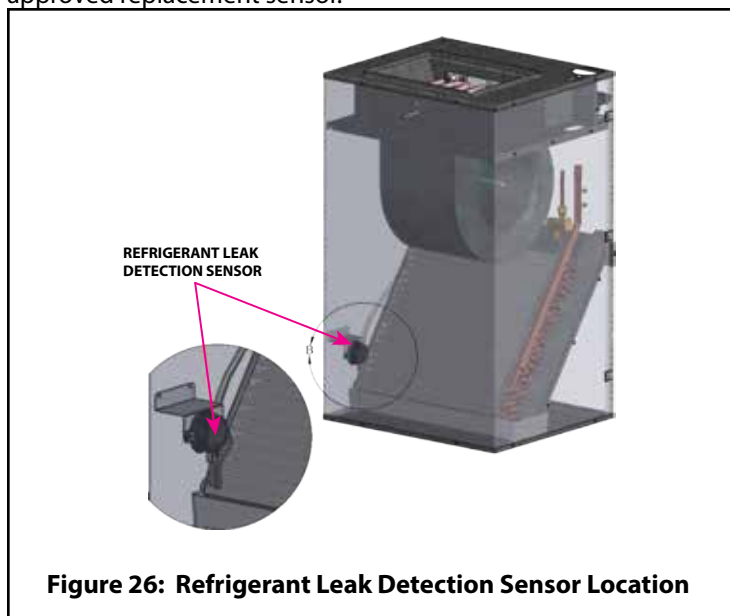

Figure 26: Refrigerant Leak Detection Sensor Location
2. Locate the black refrigerant sensor located near the bottom right side of the coil assembly below the blower (See Figure 26).